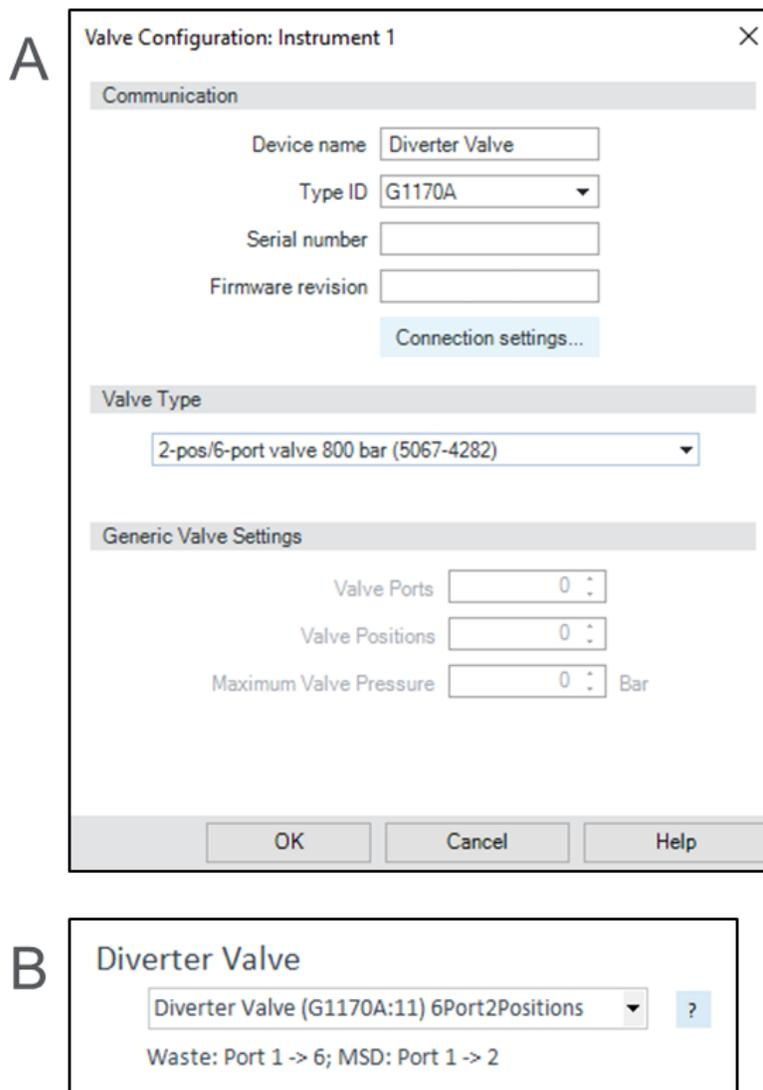

Figure 3 Configuration of the diverter valve in the ChemStation Instrument Configuration (A) and the 2D-LC Configuration (B).
- 2 Configure the diverter valve in OpenLab CDS ChemStation Edition Instrument Configuration (Figure 3 on page 5, section A).
- 3 Select the diverter valve in the 2D-LC Configuration (Figure 3 on page 5, section B).